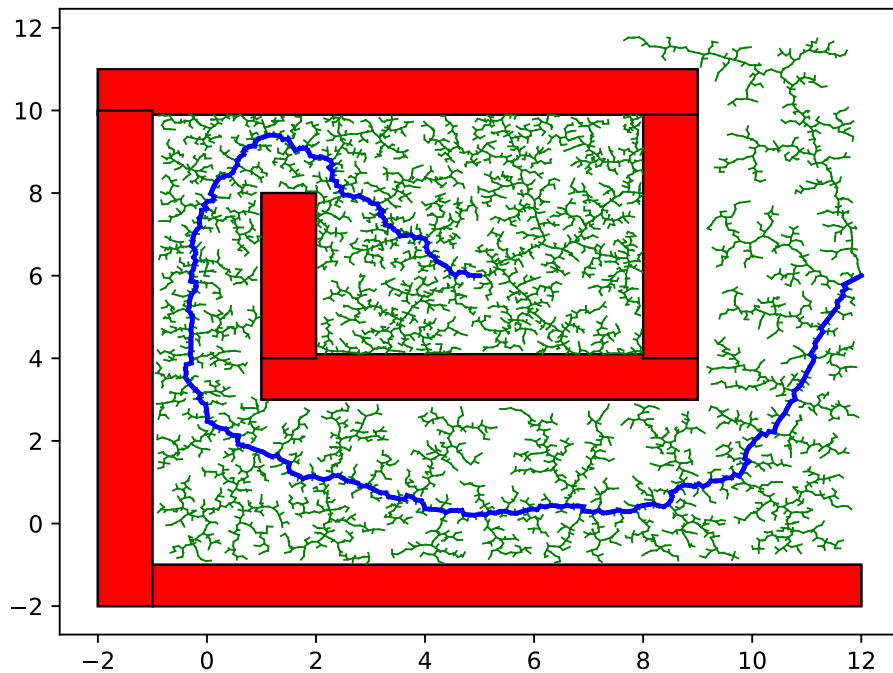

Figure 7: RRT tree (gray) and final solution path (blue) for the particle model. Obstacles are shown in red, start (green) and goal (black).
- Using the completed `rrt_particle` planner, we obtained feasible paths in the provided world. An example is shown in Figure 7.